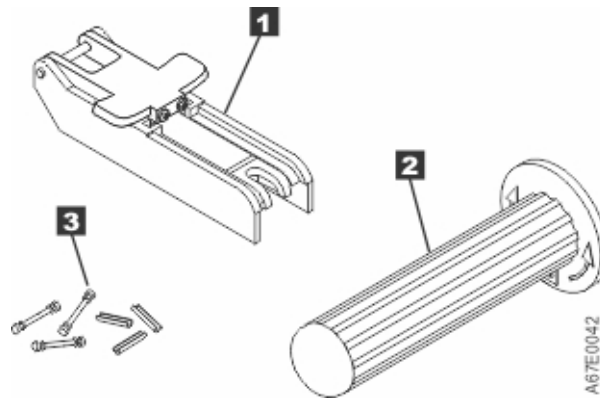

Figure 14. Leader pin reattachment kit
- **Leader pin attach tool** (See **1** in Figure 14 on page 70). A plastic brace that holds the cartridge door open.
- **Cartridge manual rewind tool** (See **2** in Figure 14 on page 70). A device that fits into the cartridge's hub and enables you to wind the tape into and out of the cartridge.
- **Pin supplies** (See **3** in Figure 14 on page 70). Leader pins and C-clips.